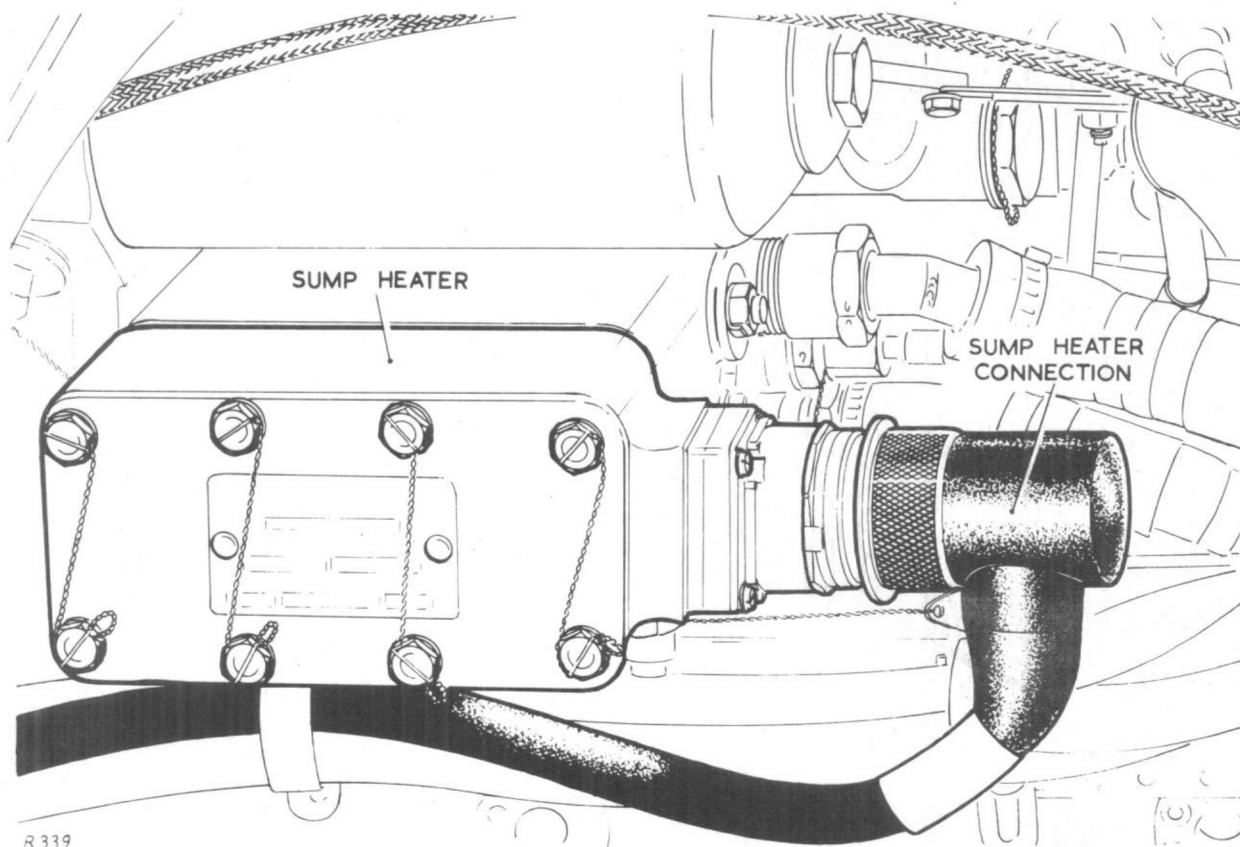

Fig. 2. Sump heater connection and pipe clips
5. (1) Carefully place the sump heater gasket in position on the flange of the compressor housing; insert the heater unit into the sump and secure with eight socket head screws; then secure the two pipe clips and wire-lock the screws in pairs (fig. 2).